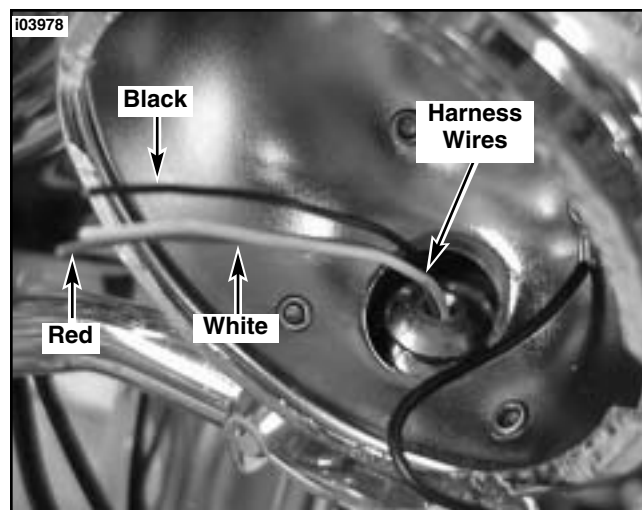

Figure 4. Route Harness Wiring Into Lamp Bucket
10. See Figure 4. Route (Push) the 3 wires from harness up through the lamp mounting stem and out into the lamp bucket following the same route as when removing the original power wire.